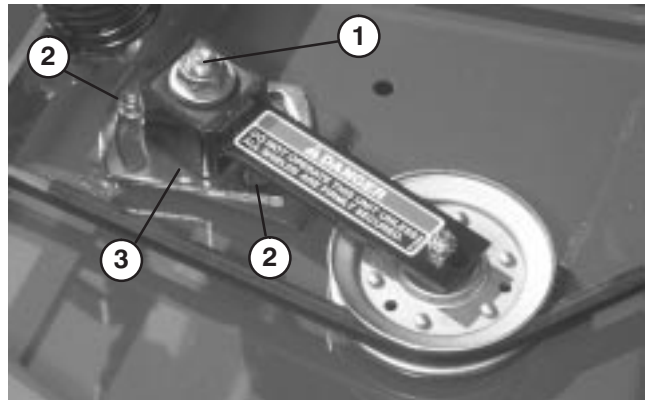

Figure 35
ADJUSTING IDLER PULLEY (Fig. 35)
3. Loosen two nuts securing idler plate in place. Using a socket and torque wrench, tighten the idler adjusting nut to 35–40 ft–lb. (Fig. 35).